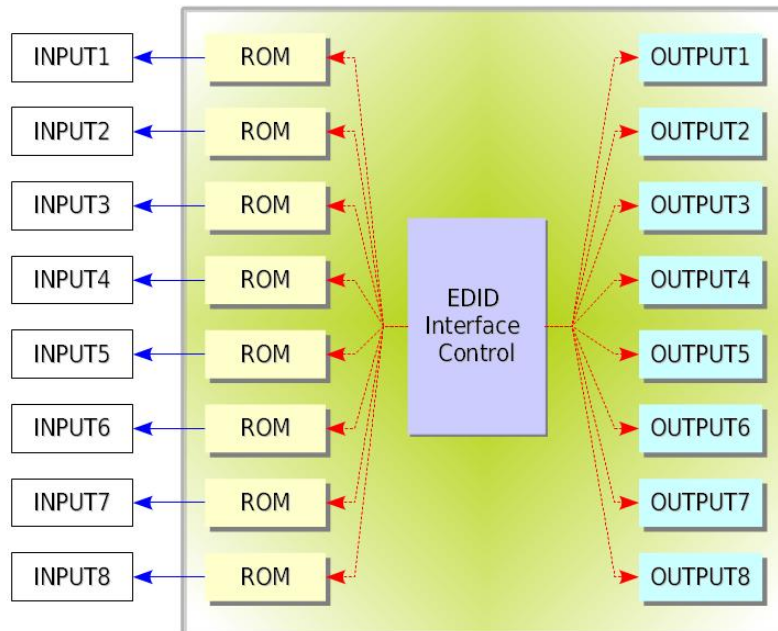

Figure 1-3 Concept drawing for setting EDID in OHM88
- As depicted in Figure 1-3, once EDID is configured, each EDID is stored in EEPROM at the front of the HDMI Input. As a result, the video sources are able to read EDID from the EEPROM during boot-up; even though the OHM88 and connected displays are not powered on yet.